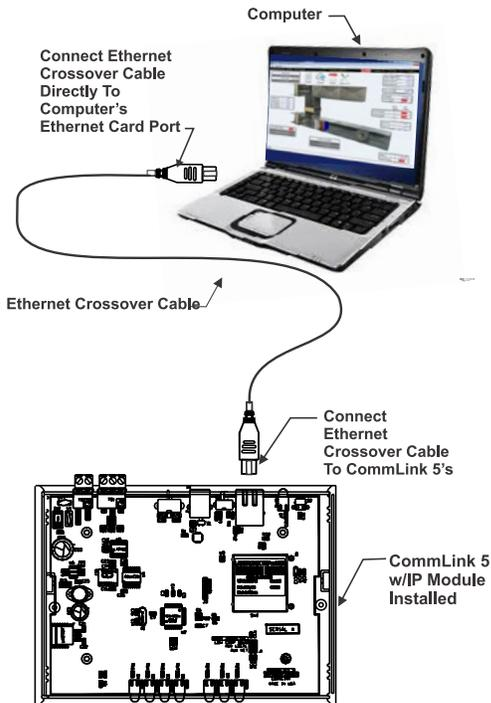

Figure 5: Connecting with Crossover Ethernet Cable
- Step 6:** Connect your CommLink to your PC via Ethernet cable. See **Figures 5 & 6, page 9**.
- 1.) You can connect the CommLink directly to your PC by using a crossover CAT 5 Ethernet cable (provided) as shown. See **Figure 5** for details.